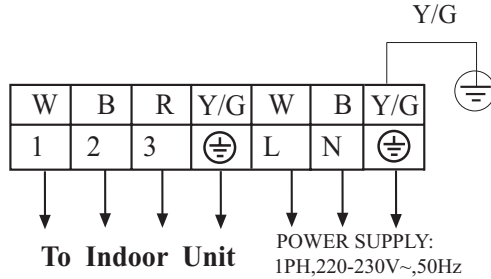
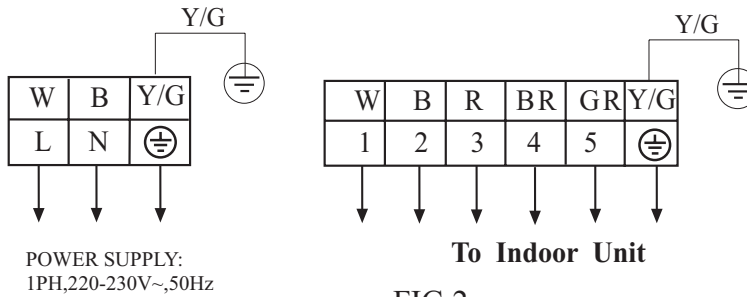
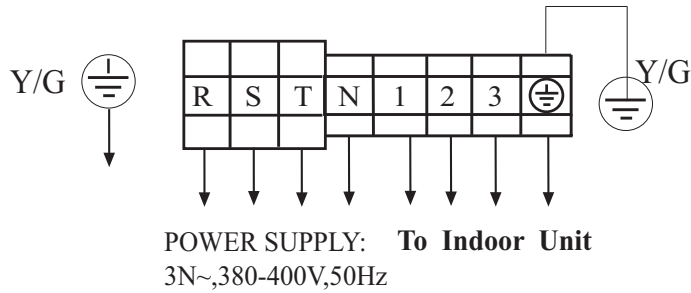
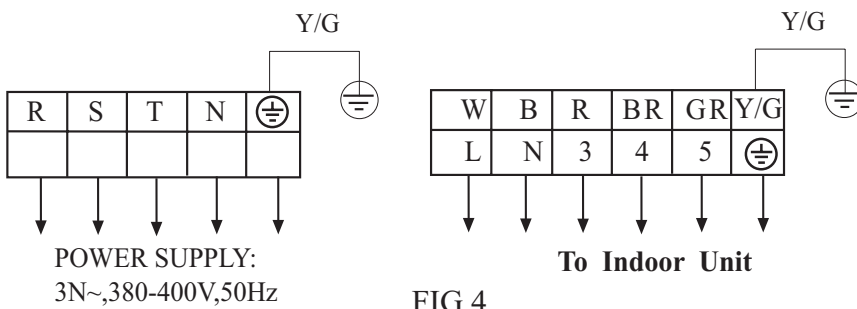

FIG.1
FIG.2
FIG.3
FIG.4
DO NOT CONNECT THE NEUTRAL WIRE (N) TO (R) , (S) OR (T) PHASE. INTERCONNECTING WIRES MUST BE WIRED ACCORDING TO FIG.1 FIG.2 FIG.3.FIG.4.INCORRECT WIRING CAUSE EQUIPMENT DAMAGE.